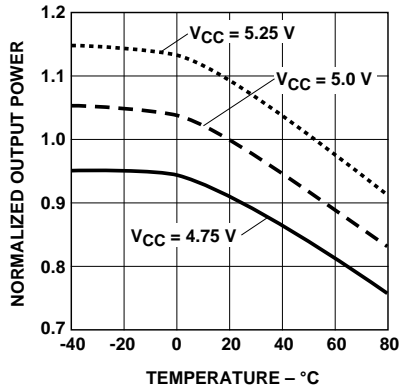

Figure 4. Typical Normalized Optical Power vs. Temperature (in Recommended Drive Circuit).
3. Minimum and maximum values for  $P_T$  over temperature are based on a fixed drive current. The recommended drive circuit has temperature compensation which reduces the variation in  $P_T$  over temperature, refer to Figures 4 and 6.